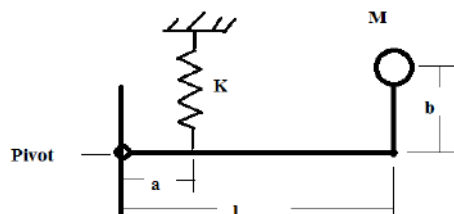

Fig.2
4. Determine the differential equation of motion for the system shown in Fig.2, where the moment of inertia of the mass M and the bell crank lever about O is J_0 . What is the time period of vibration of this system in the vertical plane? Is there any limitation in the value of b ?